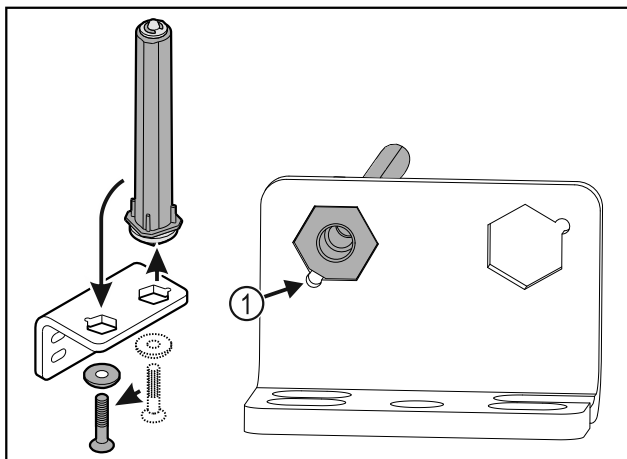

Fig. 40
- Make sure the pin chamfer Fig. 40 (1) faces the round hole when you put it in.